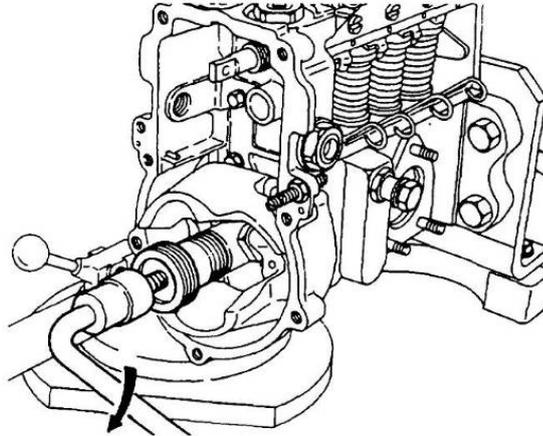

Figure 69 Removing the Flyweights
- k. Position special tool 157926-5110 in the flyweights and remove the flyweights from the camshaft (Figure 69).